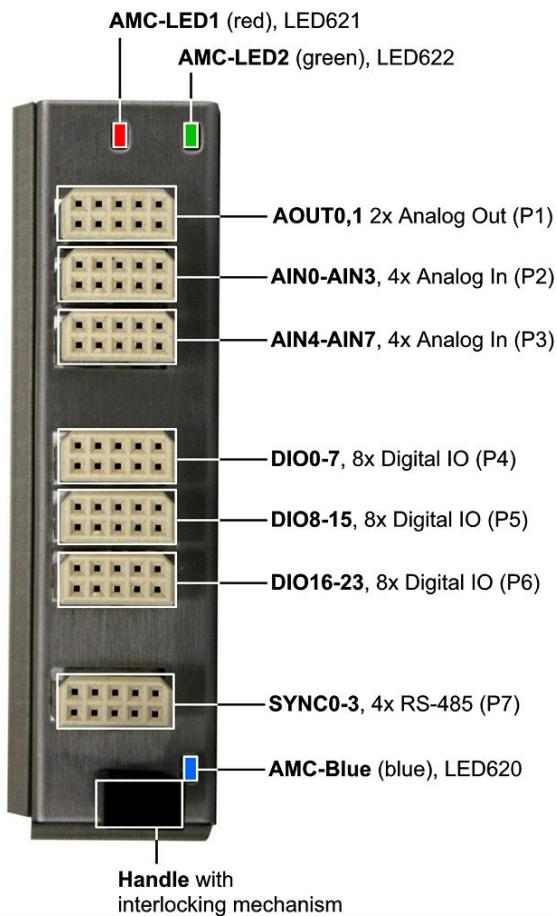
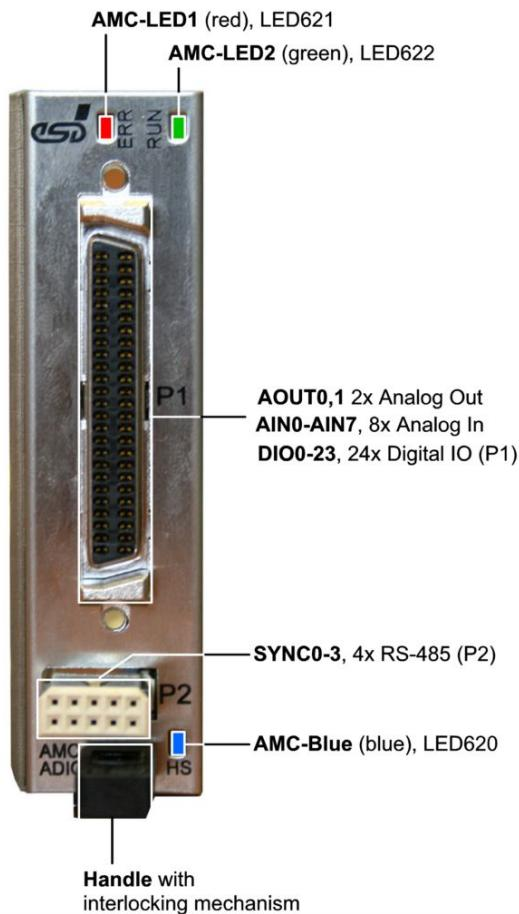

Figure 4: AMC-ADIO24 connectors and LEDs
Figure 5: AMC-ADIO24-HD50 connectors and LEDs
2. Fix the AMC-ADIO24/-HD50 by pushing the handle with interlocking mechanism (see figure 4 for AMC-ADIO24 or figure 5 for AMC-ADIO24-HD50).
3. AMC-ADIO24: Connect the signal lines to the har-link-connectors (P1 - P7) in the front panel as described in figure 4, e.g. via the har-link® cable (see page 106).
AMC-ADIO24-HD50: Connect the signal lines to the har.mik connector (P1) and the har-link connector P2 in the front panel as described in figure 5.